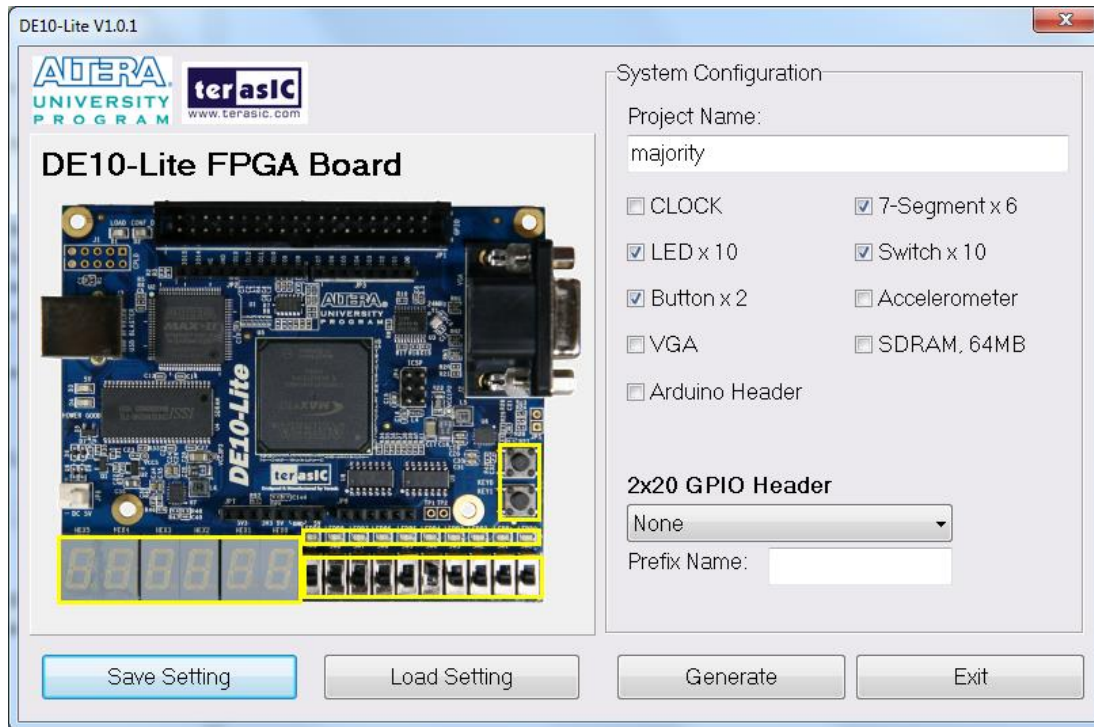

Figure 1. System Builder Configuration
- a. For this tutorial project specify the Project Name as **majority** and select the LED, Button, Switch, and 7-Segment I/O devices, as shown in Figure 1.